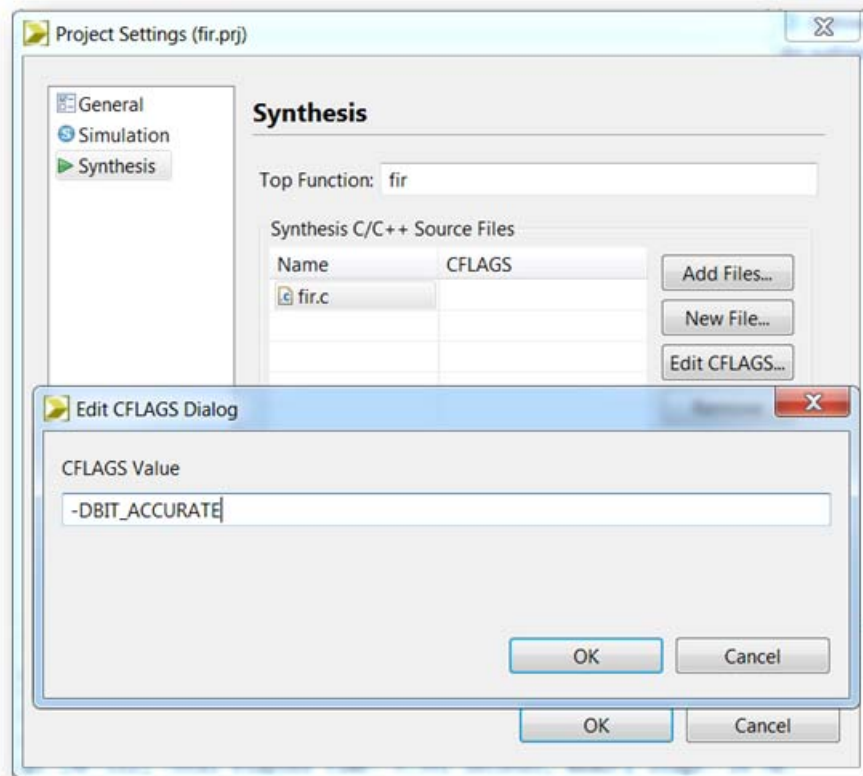

Figure 5-5: CFLAGS Settings
6. In the Synthesis section of the project setting, select source file `fir.c`, select the **EDIT CFLAGS...** button and add `-DBIT_ACCURATE` into the CFLAGS dialogue box, as shown in Figure 5-5 and click **OK**.
Figure 5-5 shows the settings for the CFLAGS to synthesize the design using bit-accurate types.